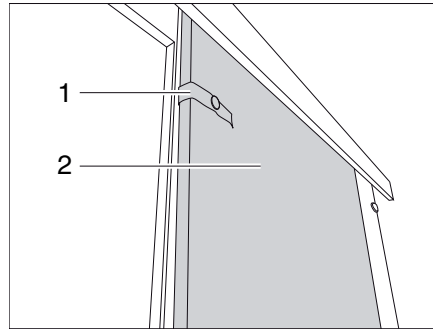

Fig. 203 Sliding door
- Release the securing strap (Fig. 203,1).
- Pull the sliding door (Fig. 203,2) into the closing position.
- Push the sliding door (Fig. 203,2) into the open position.
- Secure the sliding door with the securing strap (Fig. 203,1).